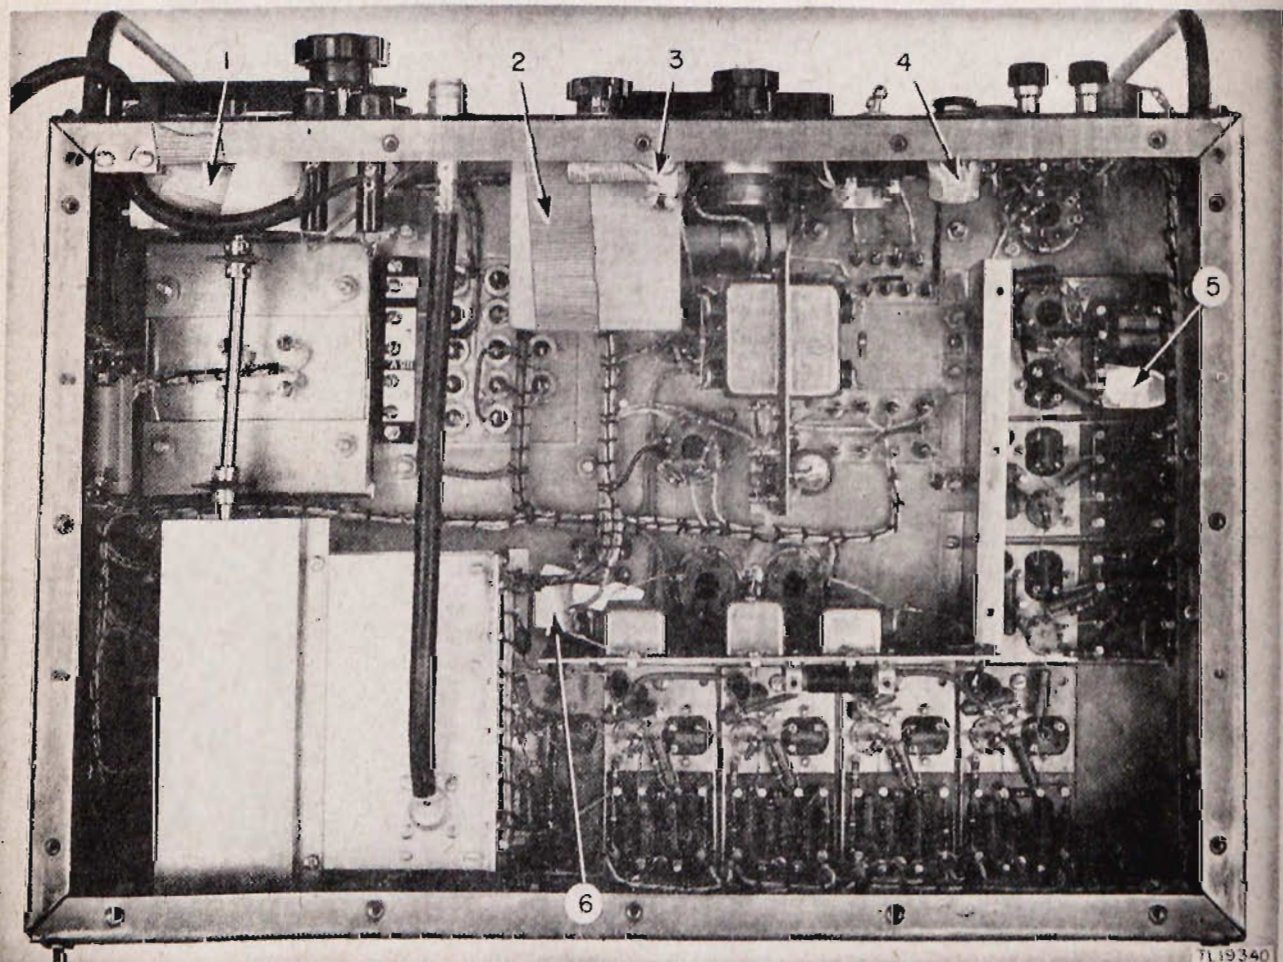

Figure 71. Radio Receiver R-48/TRC-8 (XC-3), masking details, bottom view.
(1) Cover and mask mechanical drive (item 1, fig. 71).
(2) Cover and mask meter switch (item 2, fig. 71).
(3) Mask TUNE TEST switch (item 3, fig. 71).
(4) Mask jacks (item 4, fig. 71).
(5) Mask ceramic trimmer (item 5, fig. 71).
(6) Mask opening through chassis to prevent varnish from flowing on relay controls (item 6, fig. 71).
(7) Mask rectifier and voltage regulator tube sockets (on top side of chassis).